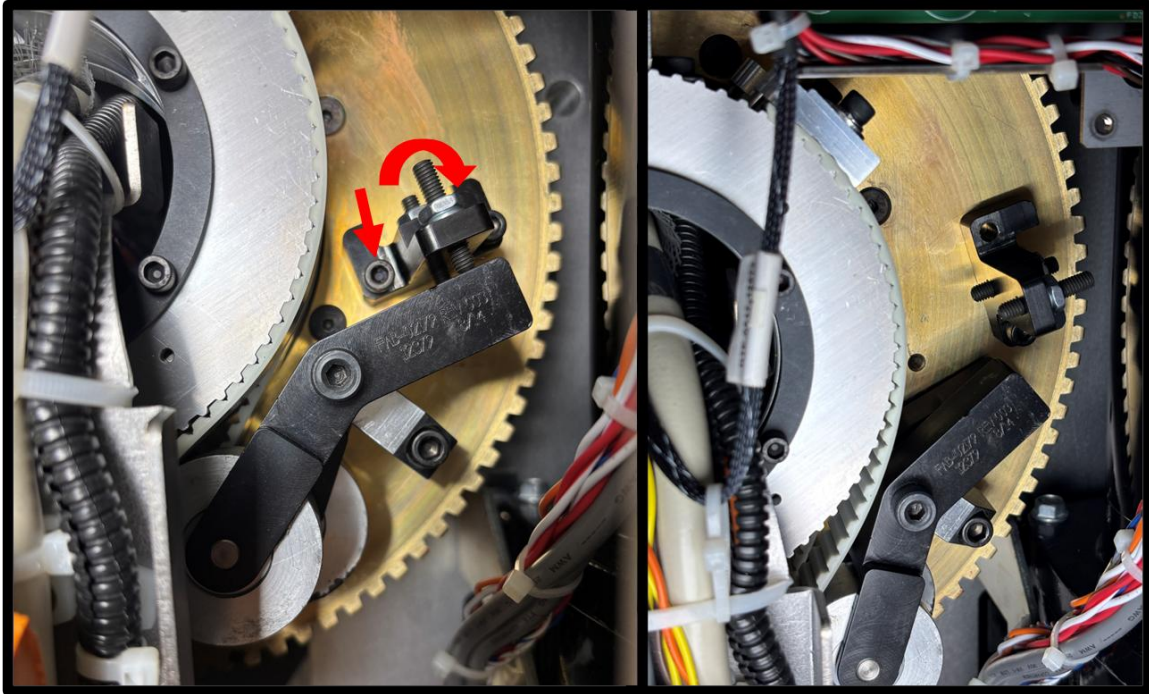

Figure 8 - Tensioner Mount before (left) and after repositioning (right)
11. Using a 5/32" hex, remove the belt tensioner socket head screw closest to the center and loosen the other socket head screw. Rotate the tensioner mount clockwise around the remaining screw and retighten the remaining screw as shown in Figure 8.